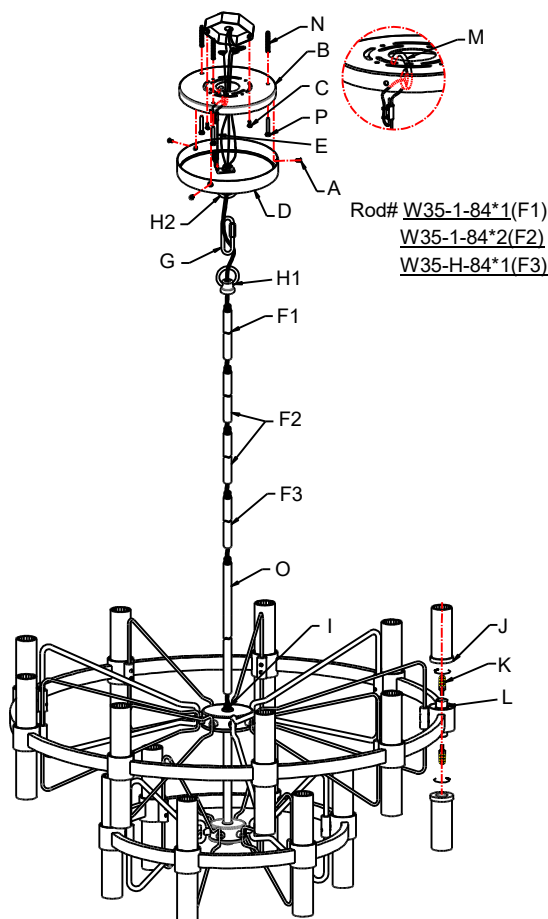

Fig. 3
CONNECTING THE WIRES (Fig. 3)
9. Connect the electrical wires as shown in fig.3, making sure that all wire connectors are secured. If your junction box has a ground wire (green or bare copper), connect the fixture's ground wire to it. Otherwise, connect the fixture's ground wire directly to the mounting plate (B) using the green screw provided. After wires are connected, tuck them carefully inside the junction box.